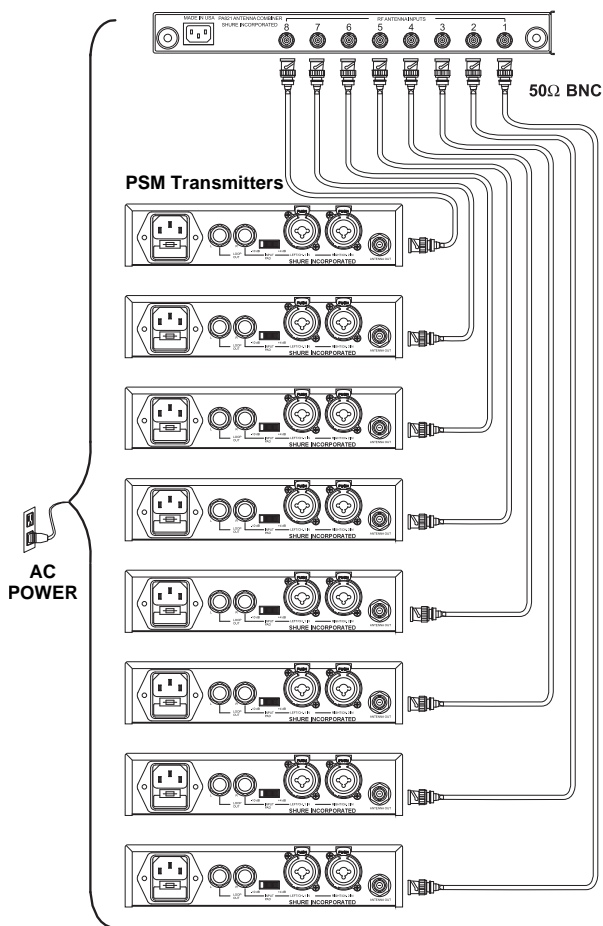

FIGURE 2
1. Using the supplied BNC-BNC cables, connect the **ANTENNA OUTPUT** of each transmitter to the **ANTENNA INPUTS** of the PA821SWB (Figure 2).